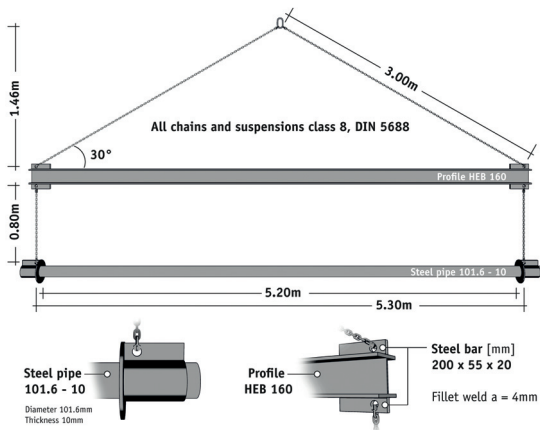

Fig. 6
8.3 Lifting the rolls can be accomplished with a 63mm - 75mm outside diameter steel pipe/bar (preferably solid), with a wall thickness capable of providing sufficient beam strength to support the weight of the roll without bending, which is (GCL type dependent) generally between 900 and 1,200kg (for 5m wide Bentofix® GCLs). The core pipe is inserted through the centre core of the Bentofix® roll. Heavy-duty slings or chains are attached to each end of the pipe, which are then fastened to a spreader bar (fig. 6). A crane, backhoe, front-end loader or any other suitable piece of equipment can then lift the entire assembly.
16.8 Rolls of Bentofix® material are unrolled using a front-end loader or other approved handling equipment. A spreader bar (fig. 6) or other approved apparatus is attached to the bucket or the front of the equipment.